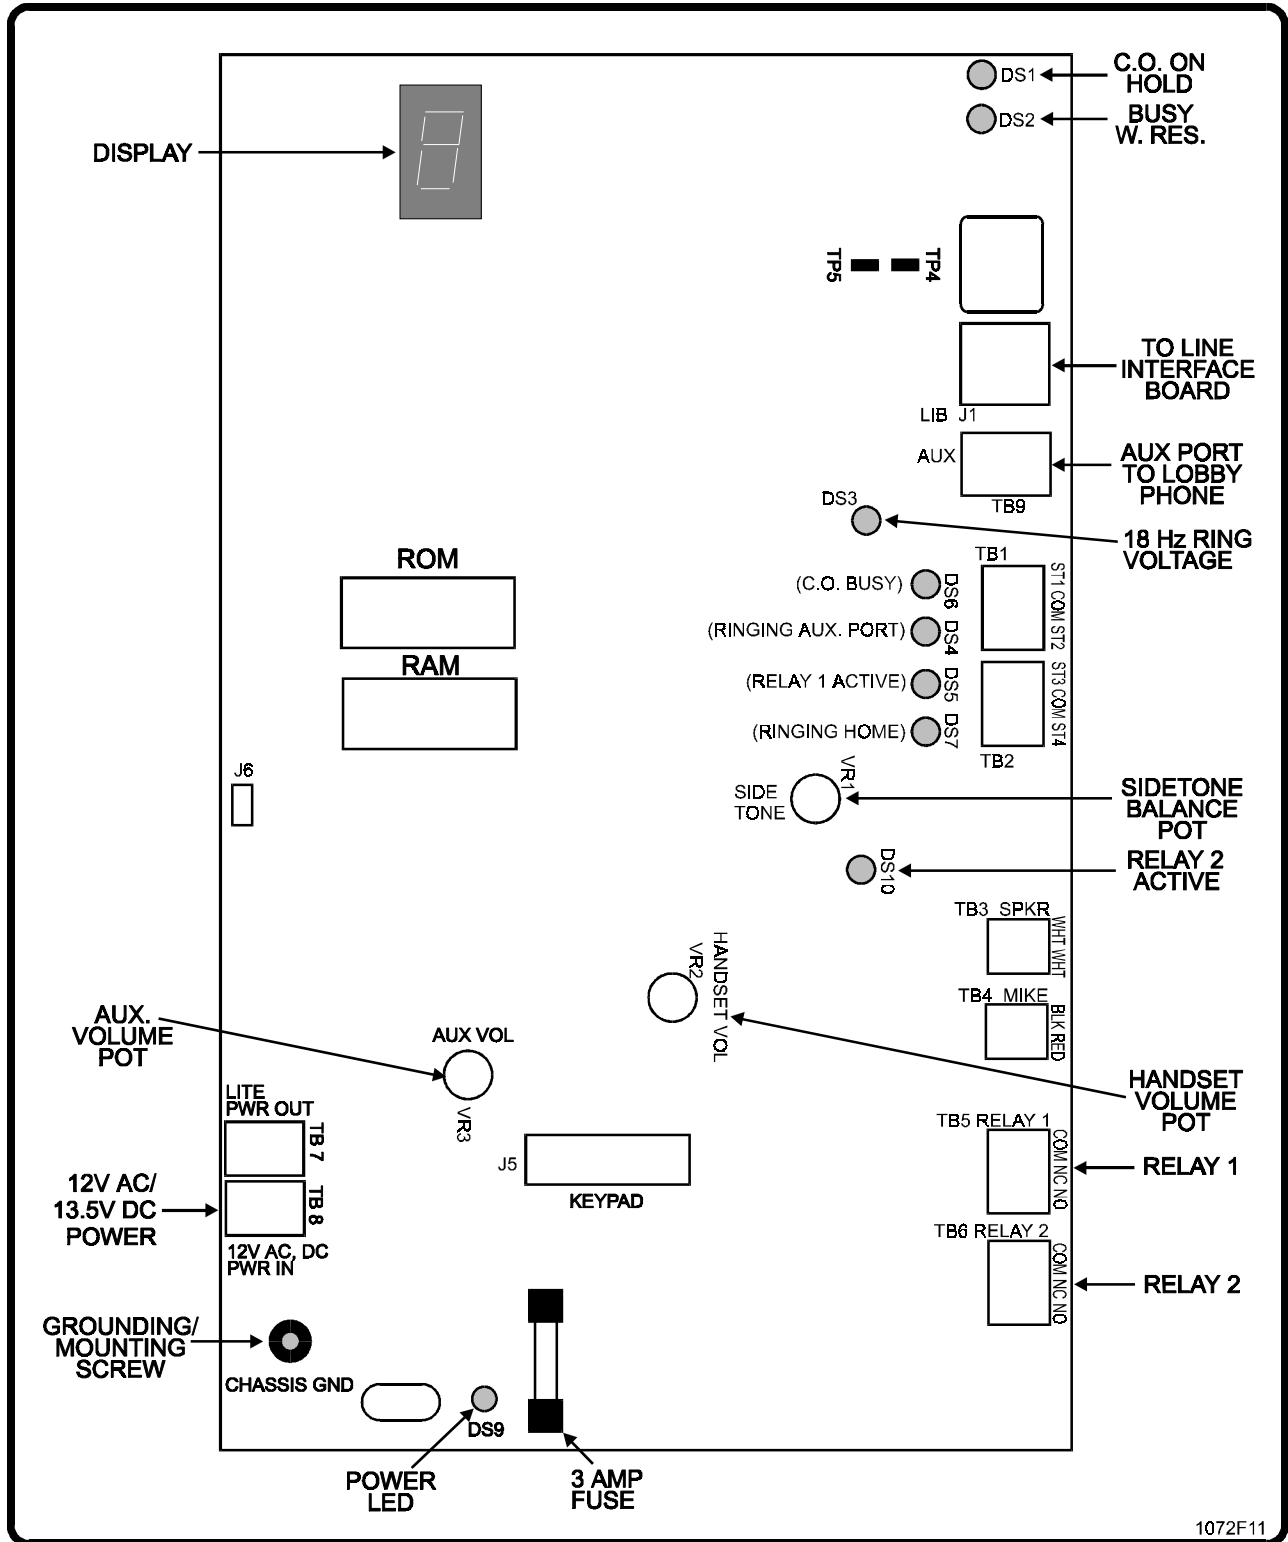
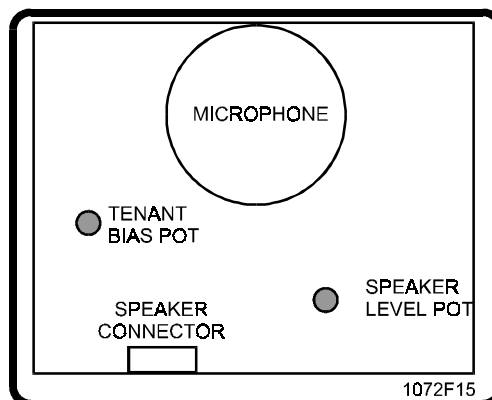

Figure 12. Ovation Controller Board Connections, Adjustments and Indicators.
Figure 16. Hands Free Board Adjustments.
Refer to Figure 12 and connect the wires from Ovation-controlled devices as follows:
2. Wire the normally closed (NC) and common (COM) terminals of the switch to:
3. Use shielded cable such as Belden 8771 and ground the shield to the Ovation controller board ground screw shown in Figure 12.
1. Place a volt meter on TP4 (+) and TP5 (-) of the Ovation controller board (see Figure 12).
1. **Handset or Speaker Volume:** If the volume at the system is too loud or soft, you can adjust it by turning the "HANDSET VOLUME" adjustment pot shown in Figure 12 (for handset models) or the "SPKR VOL" adjustment pot shown in Figure 16 (for hands-free systems).
The Ovation controller board has a number of indicator lights to help you determine the status of the board and whether it is installed correctly. See Figure 12 for indicator locations.